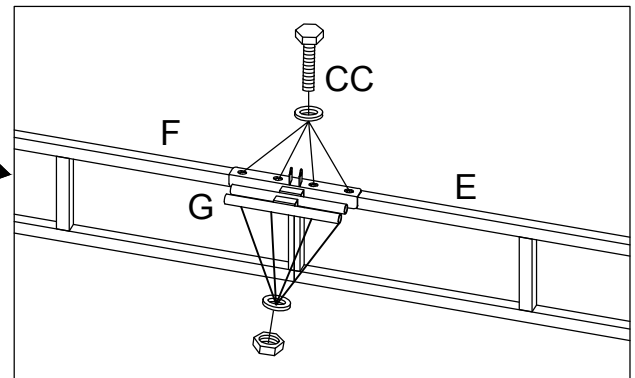

Fig.3.2
2.2.Connect the Connector (G) to the Beam (E/F) and tighten it with Bolts (CC), See Fig.3.2.